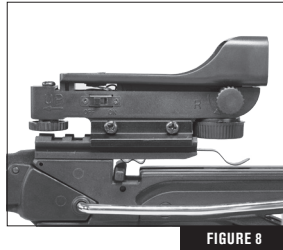

FIGURE 8
2. Slide the safety switch from the FIRE position to the ON SAFE position. (Fig. 8)
4. Carefully inspect the safety switch to ensure that it is fully in the ON SAFE position (Fig. 8). If the safety switch has not moved all the way back, it has not been placed ON SAFE and is still in FIRE position. Always visually inspect the safety switch to make certain that it is in the desired position.
**⚠ WARNING:** IF FOR ANY REASON THE SAFETY SWITCH DOES NOT FULLY MOVE TO THE ON SAFE POSITION (FIG. 8), SAFELY DE-COCK THE BOW THROUGH THE USE OF AN ARROW AS DESCRIBED IN SECTION 9.D. DO NOT USE THE CROSSBOW. CALL CUSTOMER SERVICE AT 1-866-726-1122 FOR AUTHORIZED REPAIR.